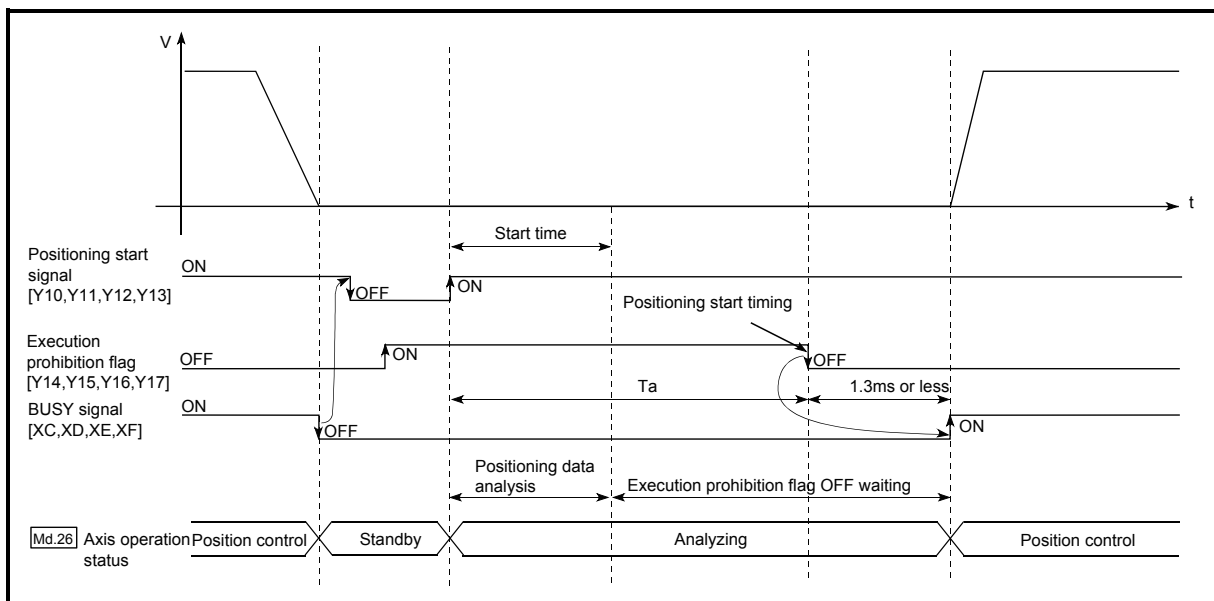

Fig. 12.48 Operations of pre-reading start function
The pre-reading start function is performed by turning ON the positioning start signal [Y10, Y11, Y12, Y13] with the execution prohibition flag [Y14, Y15, Y16, Y17] ON, or by executing the dedicated instruction (ZP.PSTRT1, ZP.PSTRT2, ZP.PSTRT3, ZP.PSTRT4). However, if positioning is started with the execution prohibition flag ON, the positioning data is analyzed but pulse output is not provided. While the execution prohibition flag is ON, "Md.26 Axis operation status" remains unchanged from "5: Analyzing". Pulse output starts within 1.3ms after the execution prohibition flag [Y14, Y15, Y16, Y17] has turned OFF, and "Md.26 Axis operation status" changes to the status (e.g. "Position control", "Speed control") that matches the control system. (Refer to Fig. 12.48)
Hence, pre-reading of the next data starts during the stop time T_w . If T_w is a certain period of time, the analysis of the next data is completed during that period, and the system is placed in an execution prohibition flag OFF waiting status. Therefore, replacing the positioning start timing at ② with the execution prohibition flag OFF allows the time from when the axis operation request turns ON until pulse output starts to be reduced to within 1.3ms in the program. (Refer to Fig. 12.48)
- (1) The time required to analyze the positioning data is up to 7ms.
- (2) After positioning data analysis, the system is put in an execution prohibition flag OFF waiting status. Any change made to the positioning data in the execution prohibition flag OFF waiting status is not reflected on the positioning data. Change the positioning data before turning ON the positioning start signal.
- (3) The pre-reading start function is invalid if the execution prohibition flag is turned OFF between when the positioning start signal has turned ON and when positioning data analysis is completed ($T_a < \text{start time}$, T_a : Refer to Fig. 12.48).
- (4) The data No. which can be executed positioning start using "[Cd.3] Positioning start No." with the pre-reading start function are No. 1 to 600 only. Performing the pre-reading start function at the setting of No. 7000 to 7004 or 9001 to 9004 will result in an outside start No. range error (error code: 543).
- (5) Always turn ON the execution prohibition flag at the same time or before turning ON the positioning start signal. Pre-reading may not be started if the execution prohibition flag is turned ON during T_a after the positioning start signal is turned ON. The pre-reading start function is invalid if the execution prohibition flag is turned ON after positioning start (pulse output) with the execution prohibition flag OFF. (It is made valid at the next positioning start.)